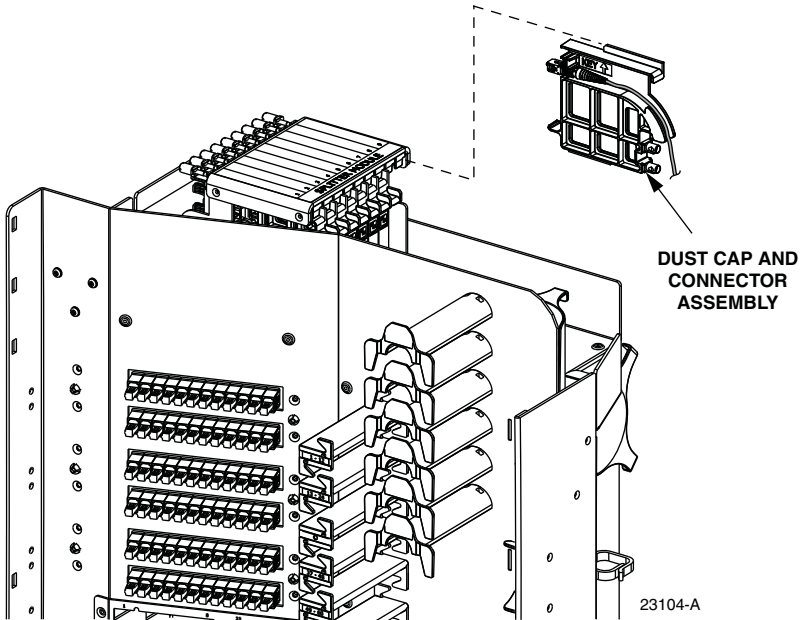

Figure 71. Inserting Dust Cap Assembly Into Splitter Compartment
9. Connect the patch cord connector(s) to the feeder cable connector(s) by inserting the dust cap assembly into the splitter slot as shown in Figure 71.